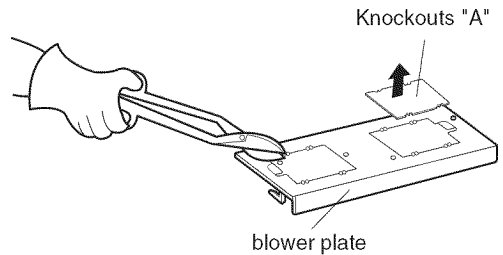

Figure 20
5. Use side cutters or tin snips to cut and remove knockouts "A" from blower plate. Discard knockouts. Be careful not to distort the plate. See **Figure 20**.